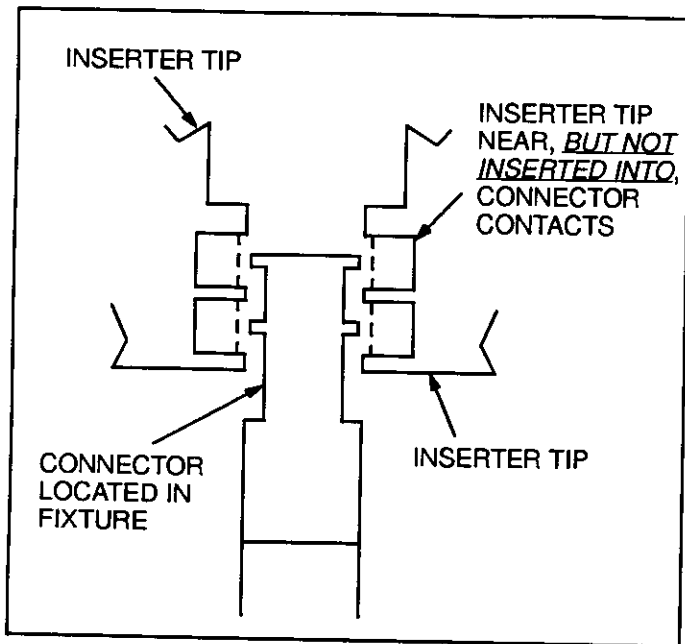

Fig. 4
3. Manually extend the inserter tips. The inserter tips should go around the contact, as shown in Figure 4. If not, the mandrel height must be adjusted.